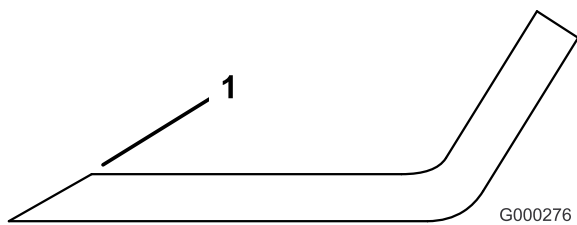

Figure 77
1. Use a file to sharpen the cutting edge at both ends of the blade (Figure 77). Maintain the original angle. The blade retains its balance if the same amount of material is removed from both cutting edges.